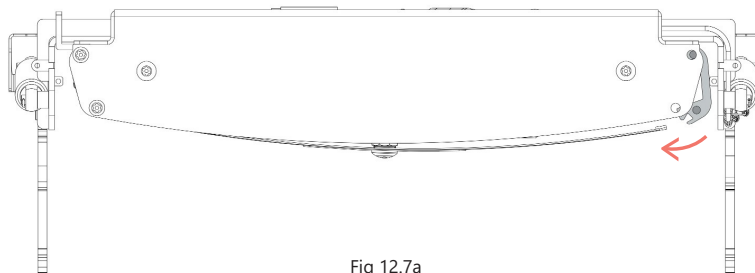

Fig 12.7a
- Looking from the top, the aluminium beam, as shown in Fig 12.7a, can now freely rotate in order to receive the front cover.